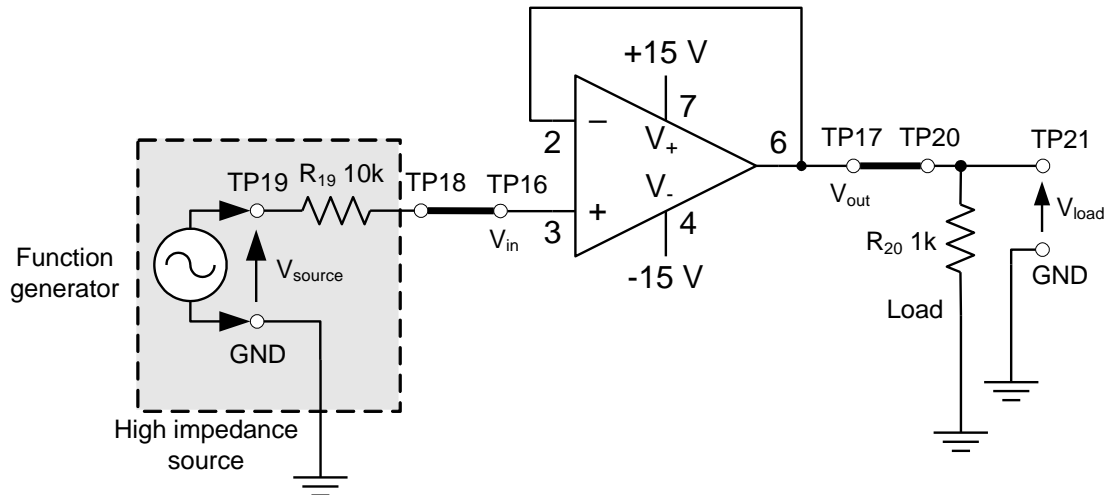

Figure 9 – Buffer Connections to Minimize the Loading Effect
15. Connect TP18 to TP16 (V_{in} of the buffer) and TP20 to TP17 (V_{out} of the buffer), as shown in Figure 9.